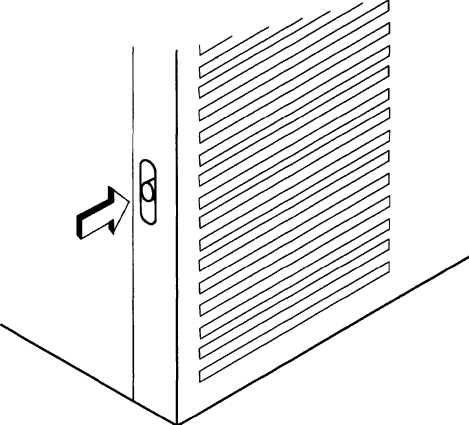
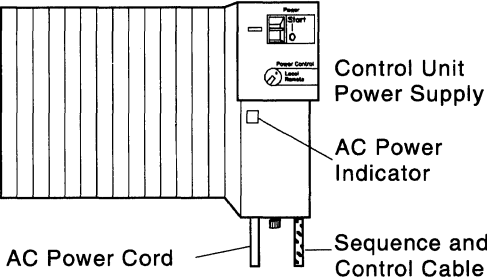
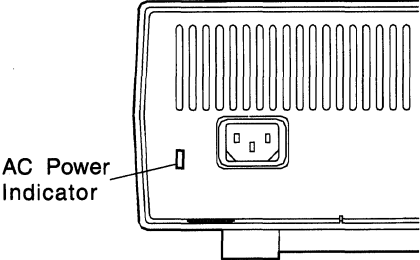

Figure 2-1. Latch Release Push Button for Models 1L through 14R
Figure 2-2. AC Power Indicator for Models 1L through 14R
Figure 2-4. AC Power Indicator for Models 81R through 92R
Figure 2-1 on page 2-7 through Figure 2-4 on page 2-7 are provided as support information for this procedure.
**Step 2** Turn off the 3174 power switch and open the front door of the 3174. See Figure 2-2 on page 2-7 to identify the location of the Sequence and Control cable.
1L through 14R	<ul style="list-style-type: none"> <li>• See Figure 2-1 and Figure 2-2 on page 2-7. Open the front door and locate the AC Power indicator to the right, above the power cord.</li> </ul>
81R through 92R	<ul style="list-style-type: none"> <li>• See Figure 2-4 on page 2-7 to locate the AC Power indicator on the back of the 3174 next to the power cord connector.</li> </ul>